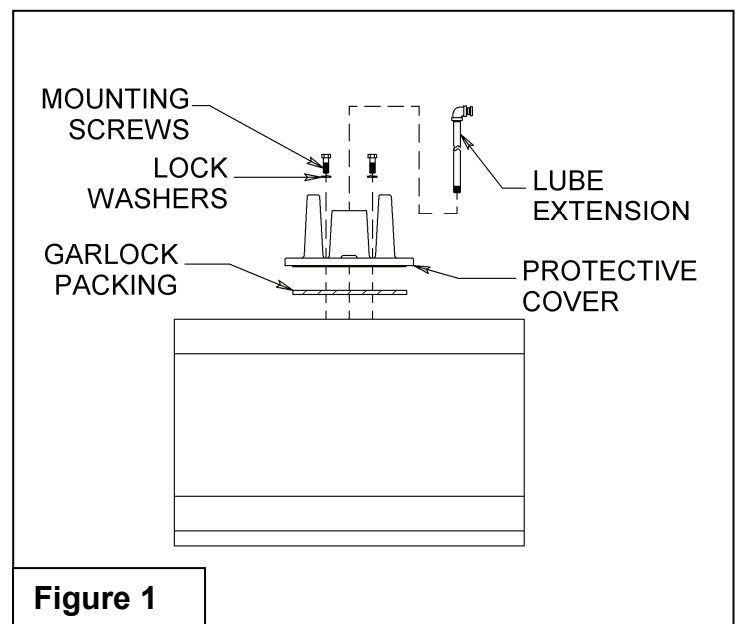

Figure 1
1. Remove the existing Lube Extension, if applicable. (See Figure 1.)